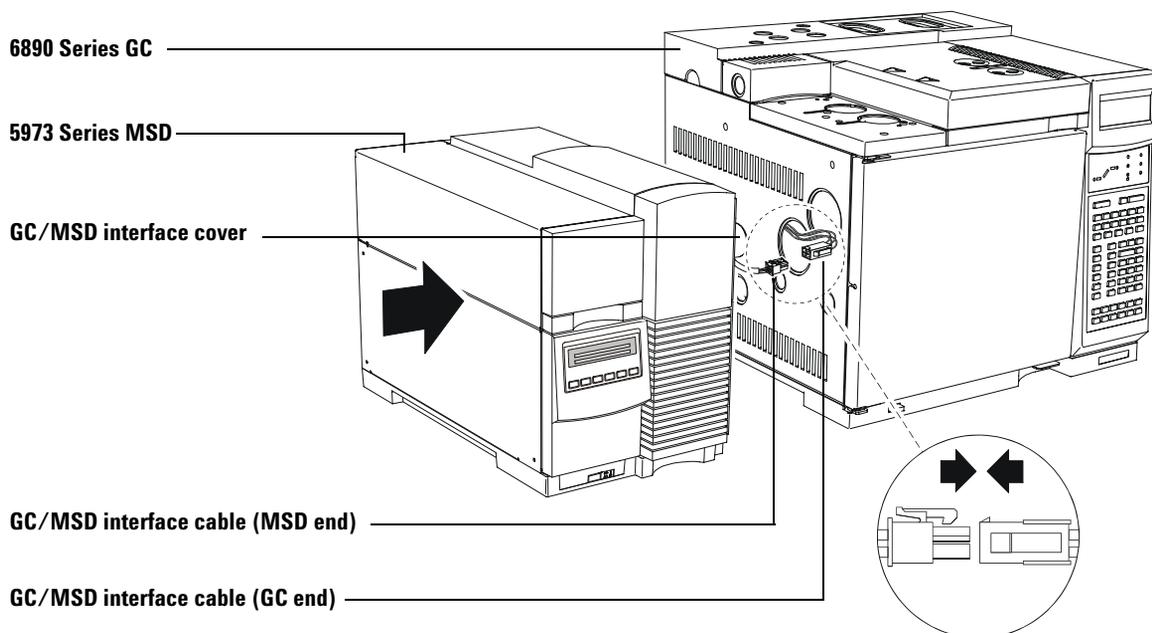

Figure 7 Connecting the MSD and the GC
- 3 Carefully position the MSD close to the GC as shown in Figure 7.